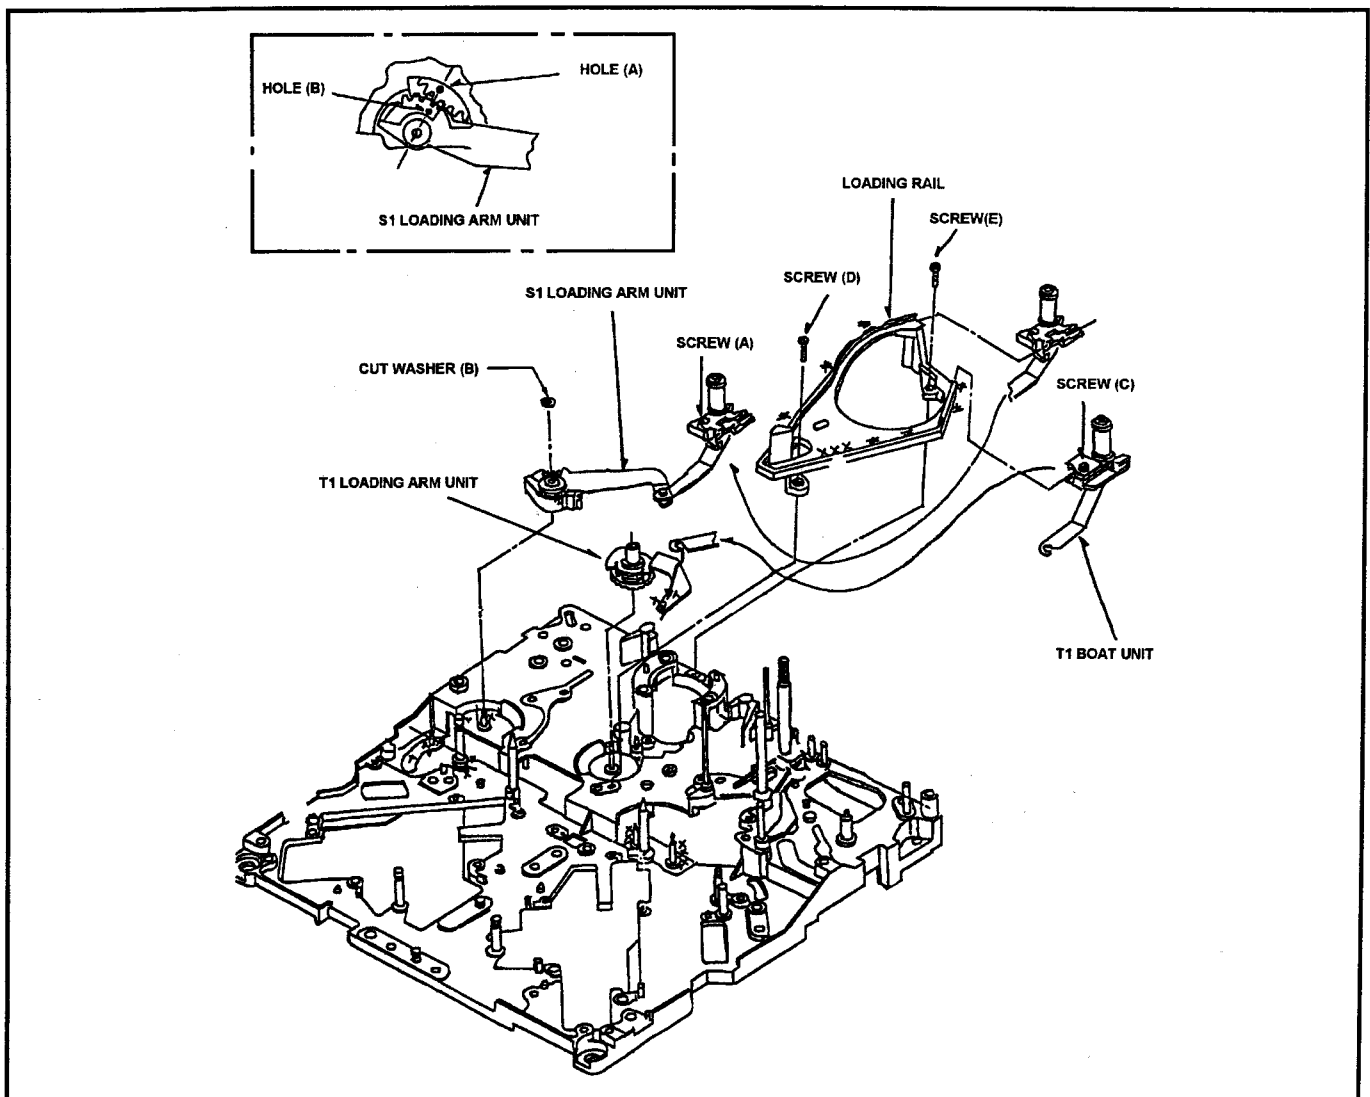

Fig. 8-11-1 Removal of S1 Post Loading Arm Unit
3. Remove the S5 Post Base Unit (Refer to item 8-14).
4. Remove the Tension Arm Unit (Refer to item 8-15).
5. Unscrew the screw (A) and remove the S1 Post from Loading Rail as shown in Figure 8-11-1.
6. Remove the Cut Washer (B) and remove the S1 Loading Arm Unit as shown in Figure 8-11-1.
1. Adjust S1 Post Loading Arm Unit so that the hole (A) should match hole (B) as shown in Figure 8-11-1.
3. Unscrew the **screws (C)**, and remove the T1 Post from Loading Rail as shown in Figure 8-11-1.
4. Remove the T1 Boat Unit from T1 Loading Arm Unit as shown in Figure 8-11-1.
3. Remove the cylinder Unit (Refer to item 8-1).
4. Move the T1 Post to loading direction until the **screw (D)** can be removed as shown in Figure 8-11-1.
5. Unscrew the **2 screws (A)** and **(C)**, and then remove the S1 and T1 Post from Loading Rail as shown in Figure 8-11-1.
6. Unscrew the **2 screws (D)** and **(E)**, and then remove the Loading Rail as shown in Figure 8-11-1.
7. Remove the T1 Loading Arm Unit as shown in Figure 8-11-1.